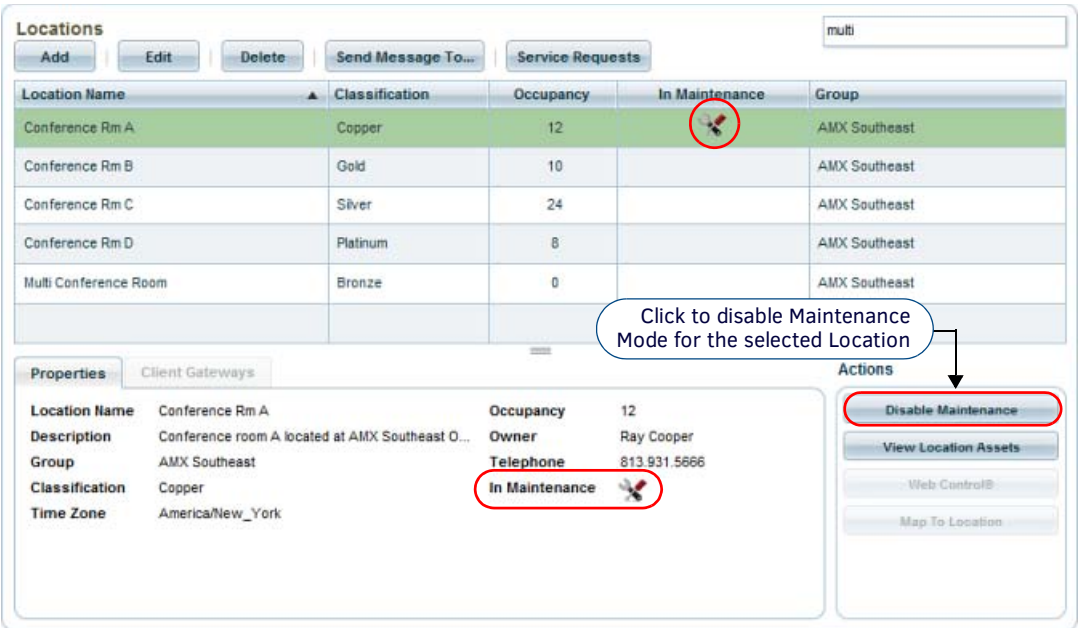

FIG. 207 Locations page - Maintenance Mode Enabled (for "AMX Conference Room A")
- 3. Maintenance Mode is indicated in the Location window (in the *In Maintenance* column) and in the Properties window as an icon (FIG. 207):